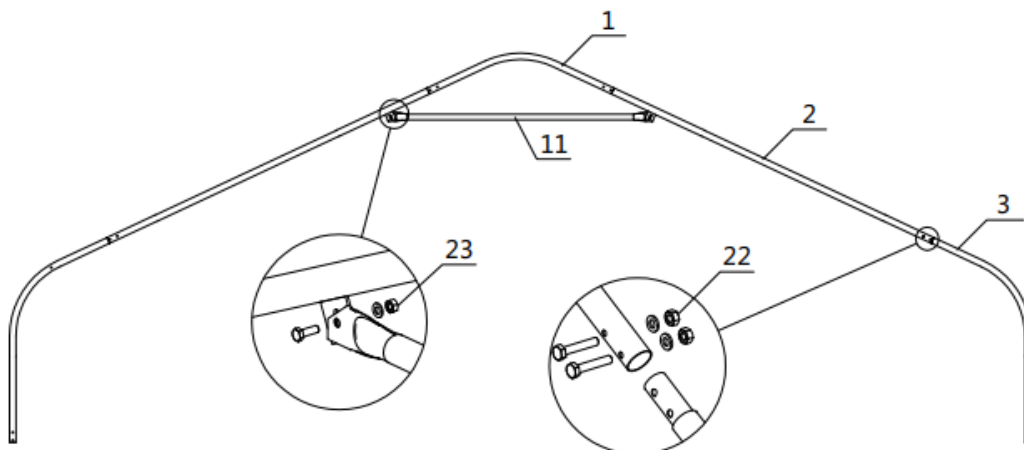

Figure3
- Parts used to install (22) middle trusses in this step (refer to figure 3) :